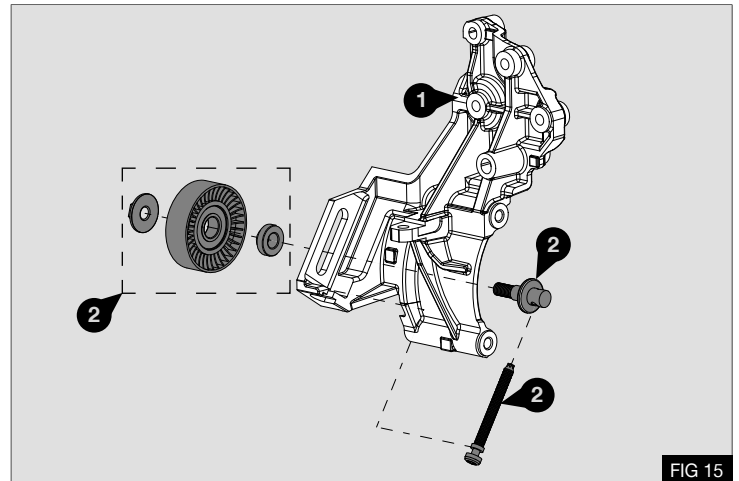

FIG 15
2. Assemble the tensioner parts ② onto the bracket ① - Fig 15